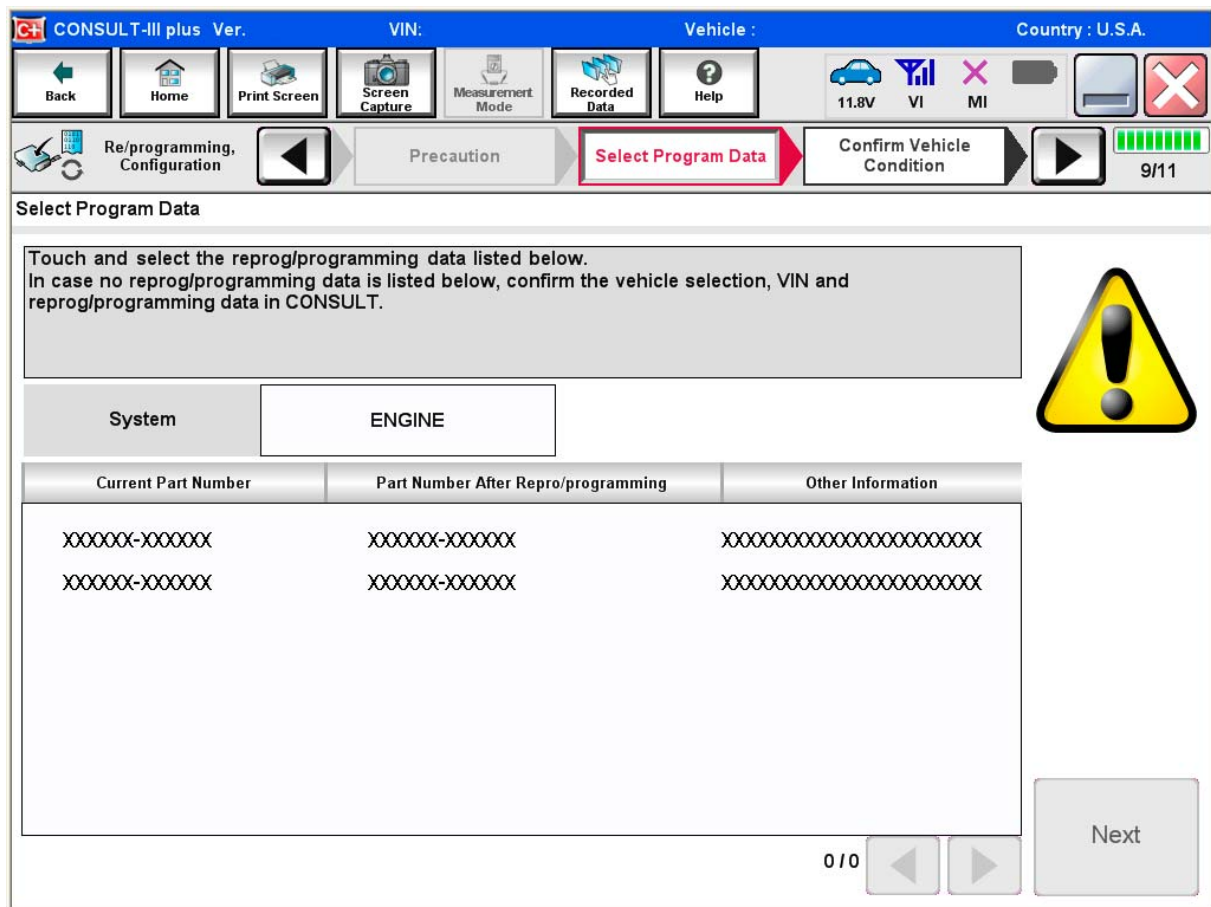

Figure 3
During the initial “Reprogramming Confirmation” set-up, if you get this screen (Figure 3):
- In this case, the screen in Figure 3 displays.